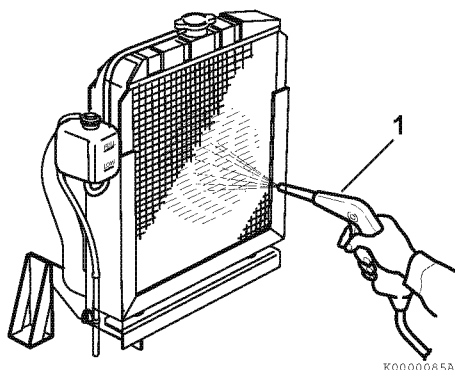

Figure 5-9
Note that a typical radiator is shown in **Figure 5-9** for illustrative purposes only.
- Blow off dirt and dust from fins and radiator with 28 psi (0.19 MPa; 2 kgf/cm²) or less of compressed air (1, **Figure 5-9**) Be careful not to damage the fins with the compressed air.